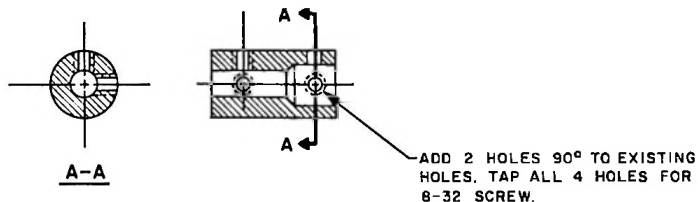

Figure 1
11. Figure 1 is a drawing of the modified coupling, 015-3062-040.